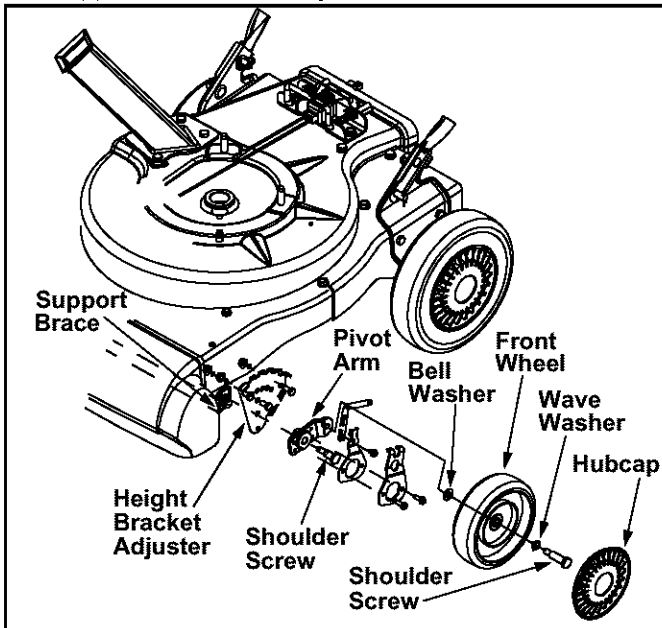

Figure 13
2. Remove the front hubcaps, shoulder screws, wave washers, and bell washers that attach to the front wheels. See Figure 13.
3. Remove the shoulder screws that go through the pivot arms and height bracket adjusters to the front support brace. See Figure 13.